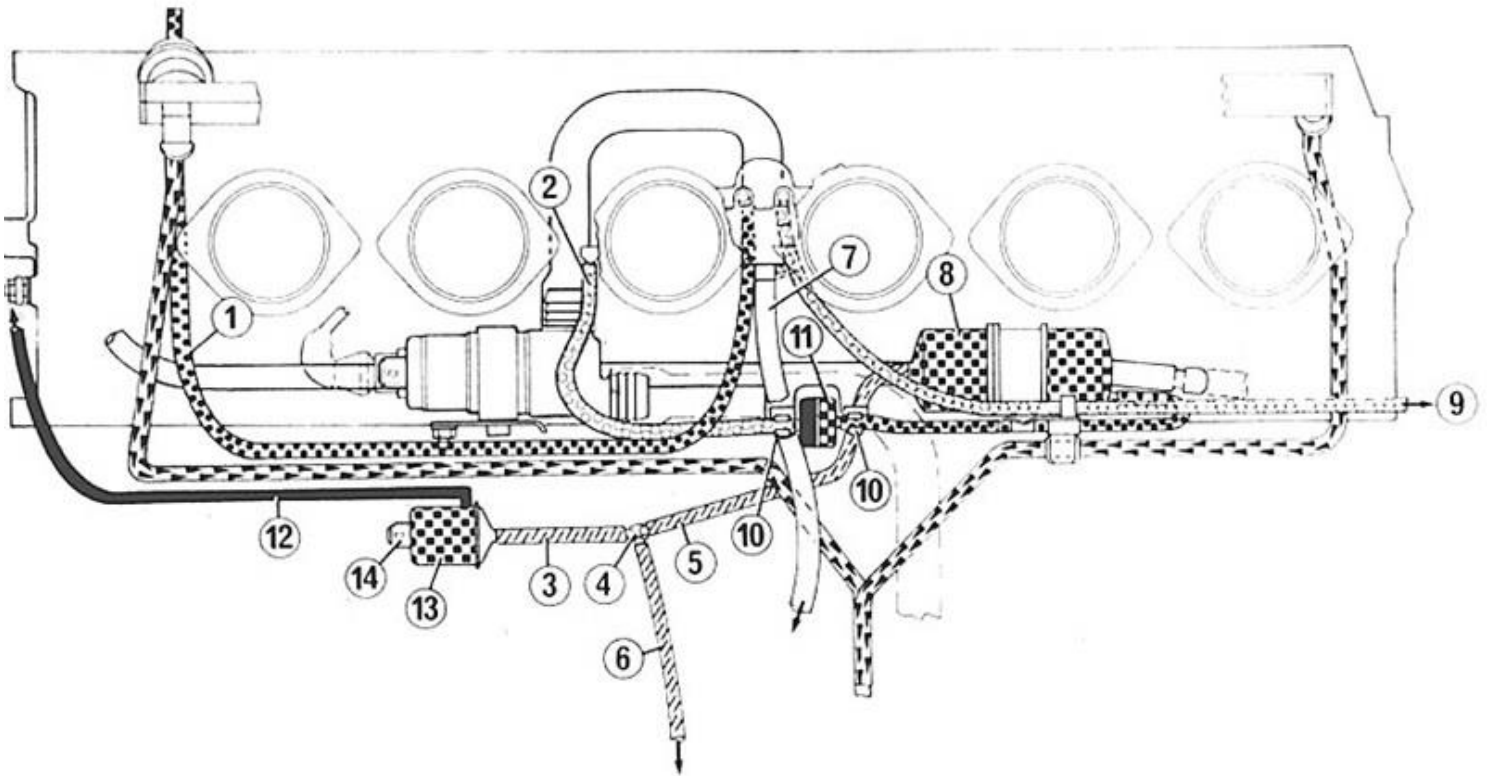

Figure 28
27. On the mounting rail find the secondary air injection servo #13 and remove the vacuum line that runs along the front of the engine #12 and down to the secondary air injection valve that's located on the exhaust side. Take note of routing and try to maintain vacuum line lengths as a template if needed. See Figure 28.